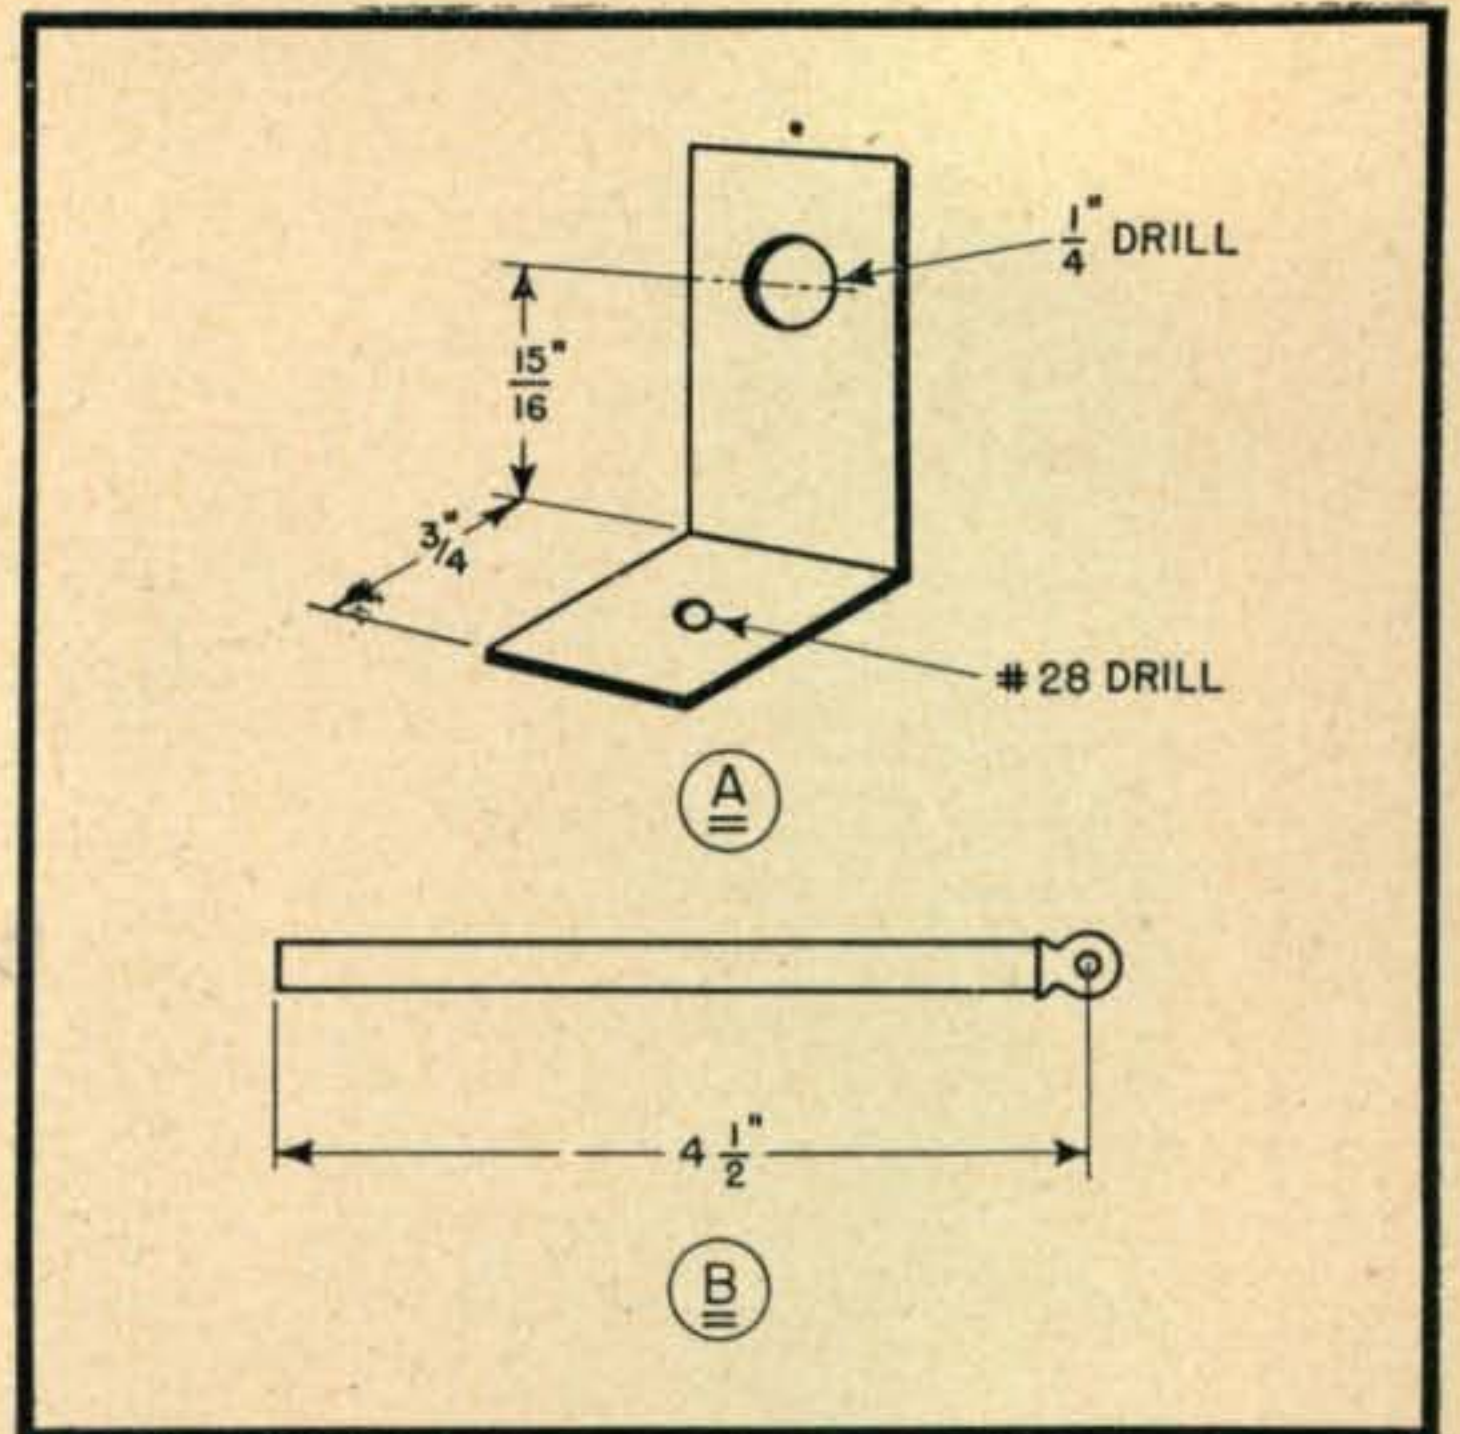

Fig. 9. The simple bracket, A, and curtain-rod shaft, B, support the powdered iron tuning element
4.—Manufacture the tuning shaft bracket and the tuning shaft as shown in *Fig. 9*. The shaft is a section of curtain rod.